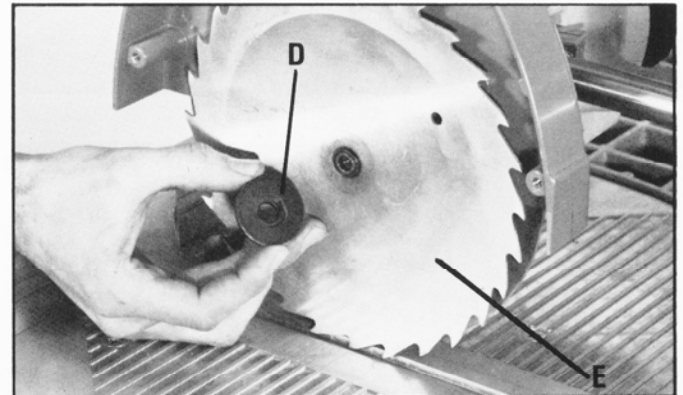

Fig. 53
6. Assemble blade (E) Fig. 53, to the saw arbor making sure the teeth of the blade are pointing down at the front, as shown in Fig. 53. Then place outside blade flange (D) on the saw arbor with flat side of flange against the blade.